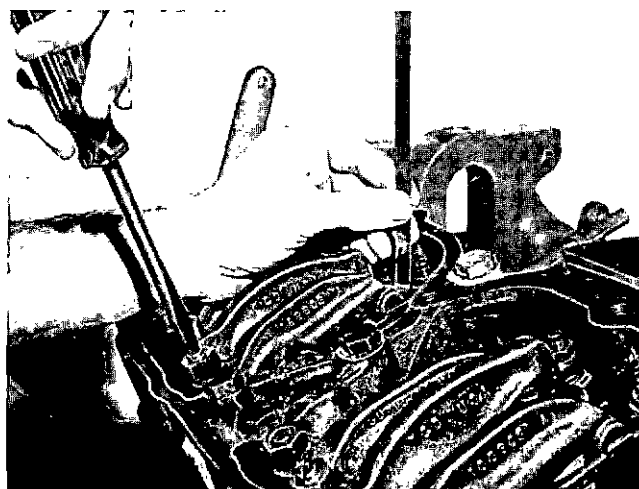

Fig. 5-37, V414193. Adjusting valves
2. Loosen locknut and back off adjusting screw. Insert feeler gauge between rocker lever and top of crosshead. Turn screw down until lever just touches gauge and lock adjusting screw in this position with the locknut. Fig. 5-37. Torque locknut to values indicated in Table 5-6; note Step 3 under "Injector Plunger Adjustment".